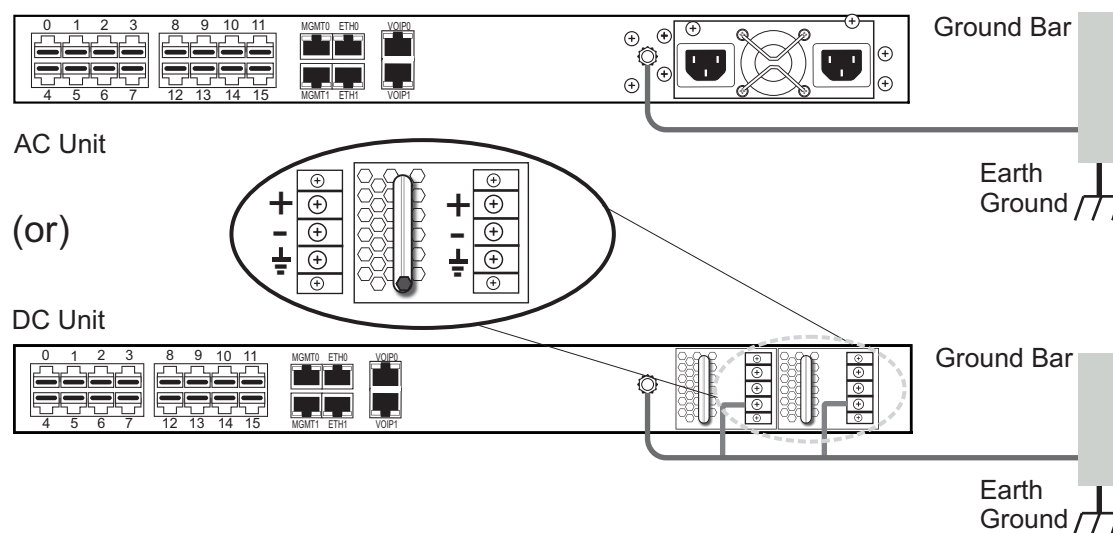

Figure 2.5 Ground Connection
- Do NOT daisy chain the ground between equipment. Use a ground bus bar, as show in figure 2.5 on page 17.
1. Connect one end of a ground wire to the ground lug of the TSBC3000 series. See figure 2.5 on page 17.